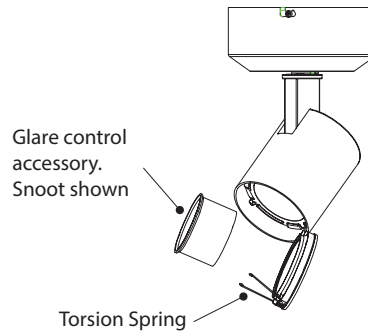

Fig 3
**Step 2:** Insert glare control accessory through the front frame. (See Fig 3)